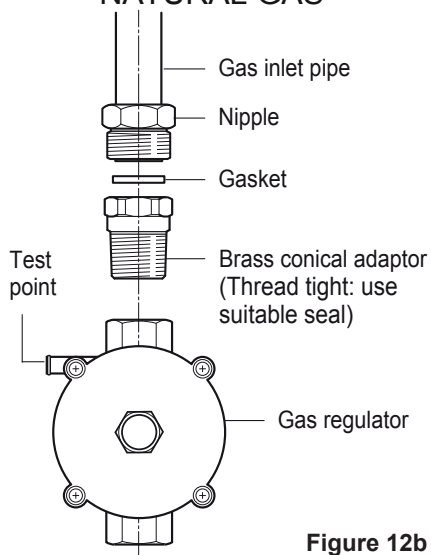

Figure 12b
- For Natural Gas models the gas supply is connected to the pressure regulator which is supplied with the appliance (fig. 12b). Adjust the regulator to obtain a test point pressure of 1 kPa with the two semi-rapid (SR) burners operating at maximum.